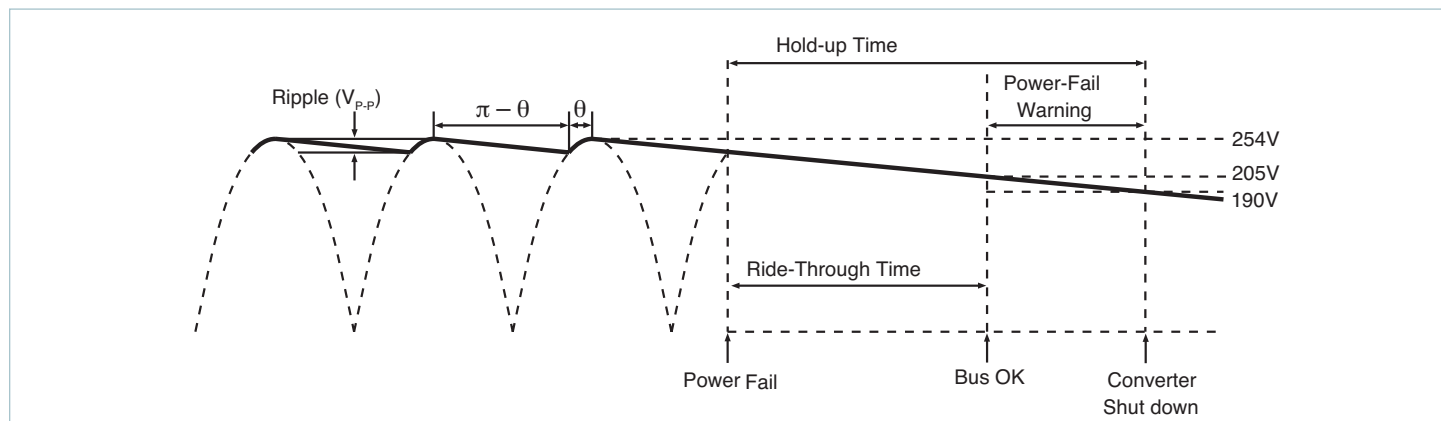

Figure 13 — Hold-up time
Hold-up Capacitors: Hold-up capacitor values should be determined according to output bus voltage ripple, power fail hold-up time, and ride-through time (See Figure 13). Many applications require the power supply to maintain output regulation during a momentary power failure of specified duration, i.e., the converters must hold-up or ride-through such an event while maintaining undisturbed output voltage regulation. Similarly, many of these same systems require notification of an impending power failure in order to allow time to perform an orderly shut down.
The power fail warning time (Δt) is defined as the interval between B OK and converter shut down (EN) as illustrated in Figure 13. The Bus-OK and Enable thresholds are 205V and 190V, respectively. A simplified relationship between power fail warning time, operating power, and bus capacitance is obtained by inserting these constants:
For example, a converter whose output is 15V and nominal input is 300V will provide approximately 56dB ripple rejection, i.e., 10V_{p-p} of input ripple will produce 15mV_{p-p} of output ripple (See Figure 17). Equation 3 is again used to determine the required capacitance. In this case, V1 and V2 are the instantaneous values of bus voltage at the peaks and valleys (See Figure 13) of the ripple, respectively. The capacitors must hold-up the bus voltage for the time interval (Δt) between peaks of the rectified line as given by: